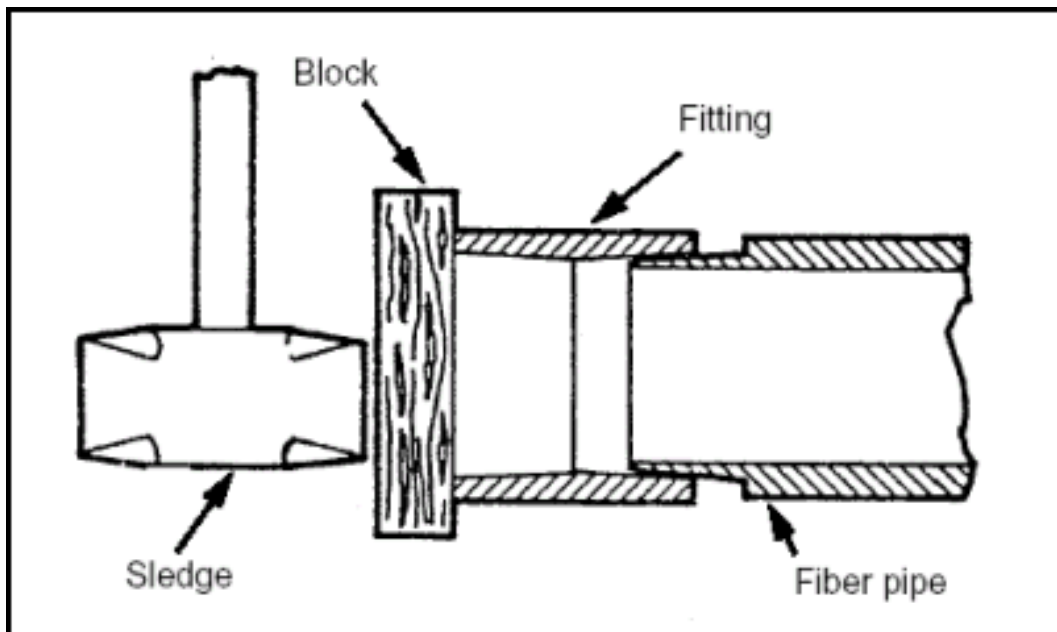

Figure 6-50. Joining Fiber Pipe
6-99. Join fiber pipe and fittings with a friction joint (Figure 6-50), as follows:
Step 4. Tap the block lightly with a sledge (Figure 6-50) to drive the pipe and fitting together until the fitting butts against the taper shoulder. The driving produces enough heat to fuse a watertight joint of the pipe and fitting.